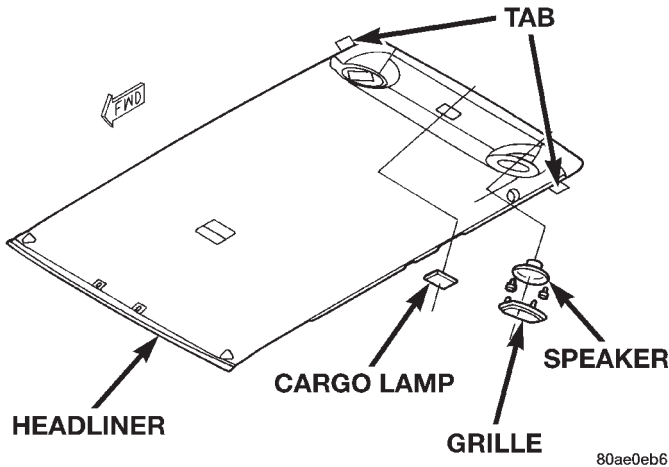
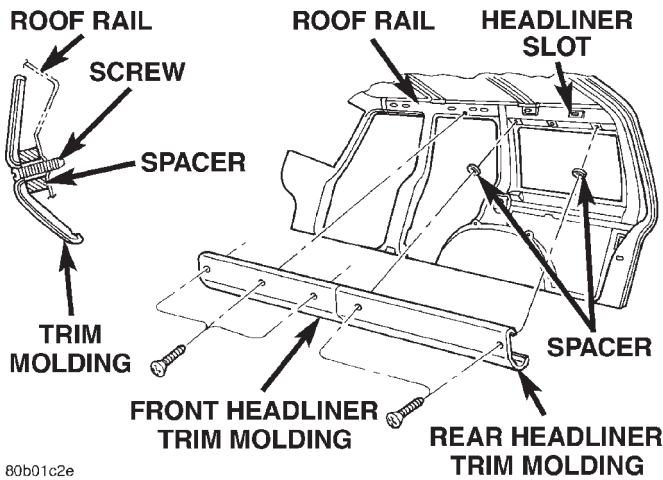

Fig. 85 Headliner
Fig. 86 Upper Trim Molding—4-Door
CAUTION: The headliner is a one-piece, molded component (Fig. 85). It has limited flexibility and must not be bent during removal/installation.
(1) Remove the upper trim moldings from the perimeter of the headliner (Fig. 86).
(2) Ensure that all the retainer clips and screws are disengaged before removing the headliner.
(3) Disengage tabs attaching headliner/speaker structure to roof rail, if equipped (Fig. 85).
(4) Disengage rear speaker harness connector, if equipped.
(1) Engage tabs attaching headliner/speaker structure to roof rail, if equipped. (Fig. 85)